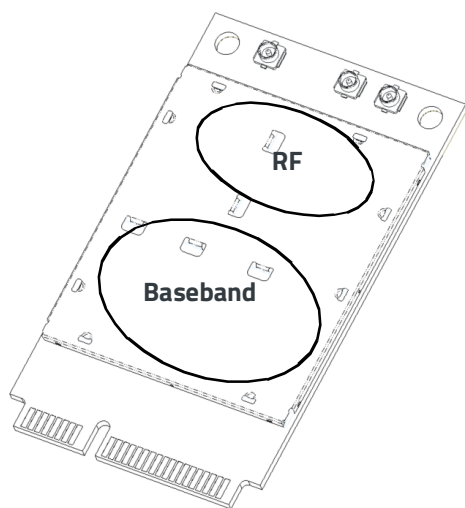

Figure 6-1: Shield locations requiring heat dissipation (Top view)
Specific areas requiring heat dissipation are shown in Figure 6-1:
- Monitor temperature on the underside of the module. Attach thermocouples to the areas indicated in Figure 6-1 on page 48 (Baseband, RF).